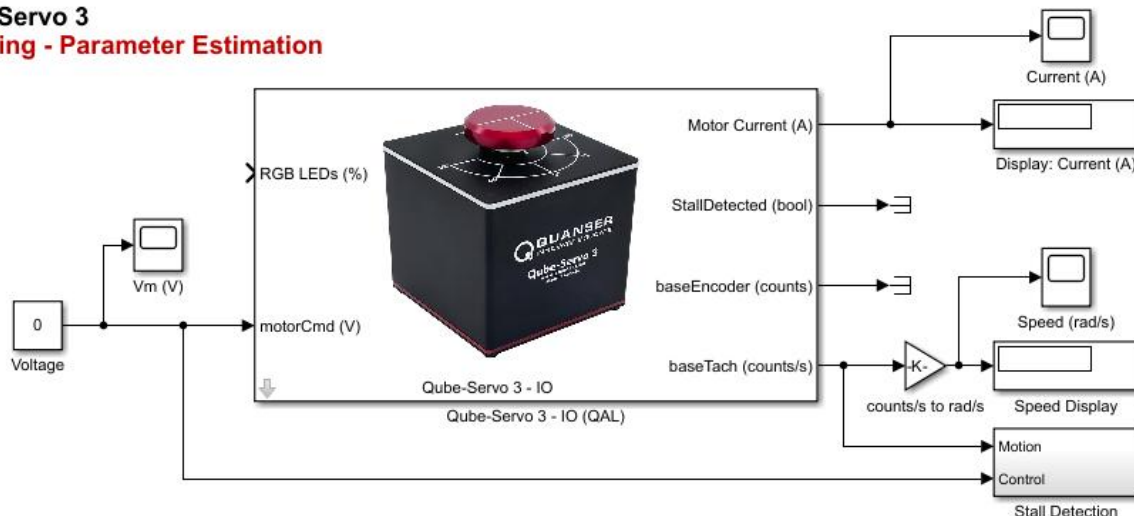

Figure 1: Model applying a voltage to the Qube and measuring motor current and speed.
Using the gains found to convert tachometer counts/s into rads/s from the instrumentation labs, use the qs3_parameter_estimation.slx file to design a model that applies a constant voltage to the motor and reads the motor current of the Qube-Servo 3 as shown in Figure 1.
4. To experimentally estimate the motor resistance, apply a set of voltages to the Qube-Servo 3 using the model in Figure 1. For each measurement, *hold the motor shaft stationary* by grasping the inertial disc load to stall the motor. Record the current measurement displayed in the Current (A) display. To prevent any issues with the Qube-Servo, please do not hold the motor stalled for more than 2 seconds at a time.